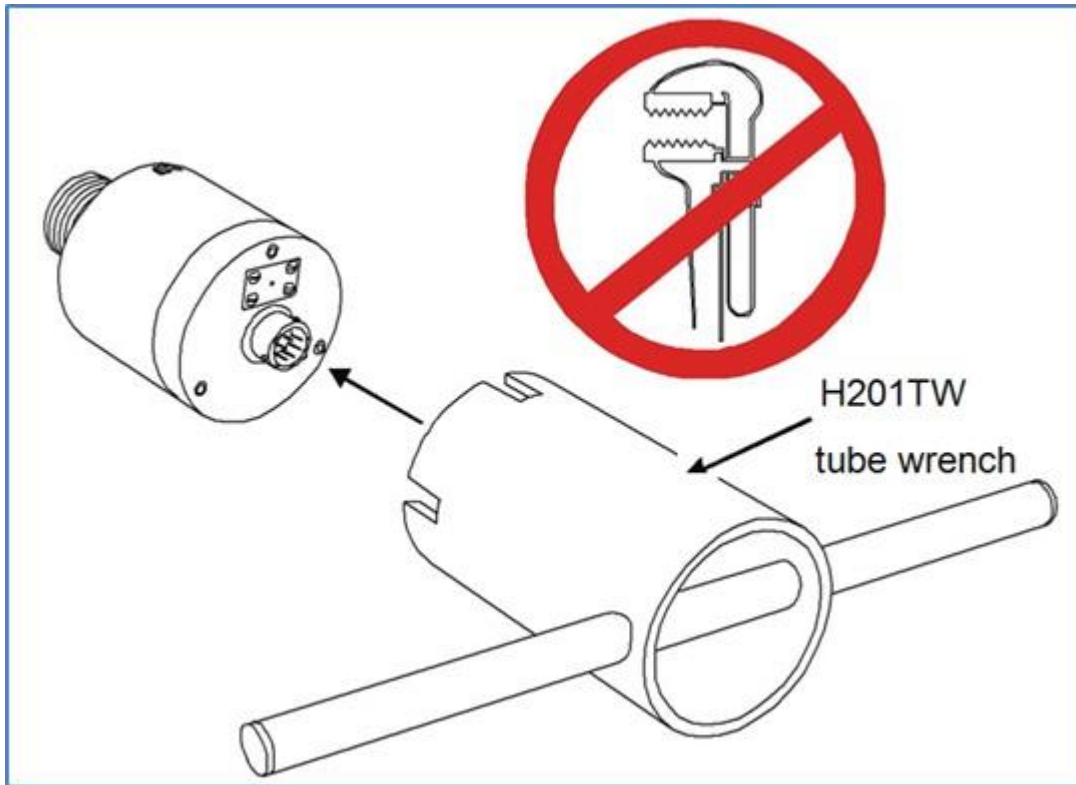

Figure 6-4: Use the Hydran 201TW instead of a Pipe Wrench
7. Do not use a pipe wrench or chain wrench to install the sensor. Doing so may cause serious damage to the sensor, thus voiding the warranty. It is recommended to use General Electric's Hydran 201TW tube wrench (see Figure 6-4 below) to correctly install the Hydran 201 sensor. One Hydran 201TW tube wrench per site is recommended.